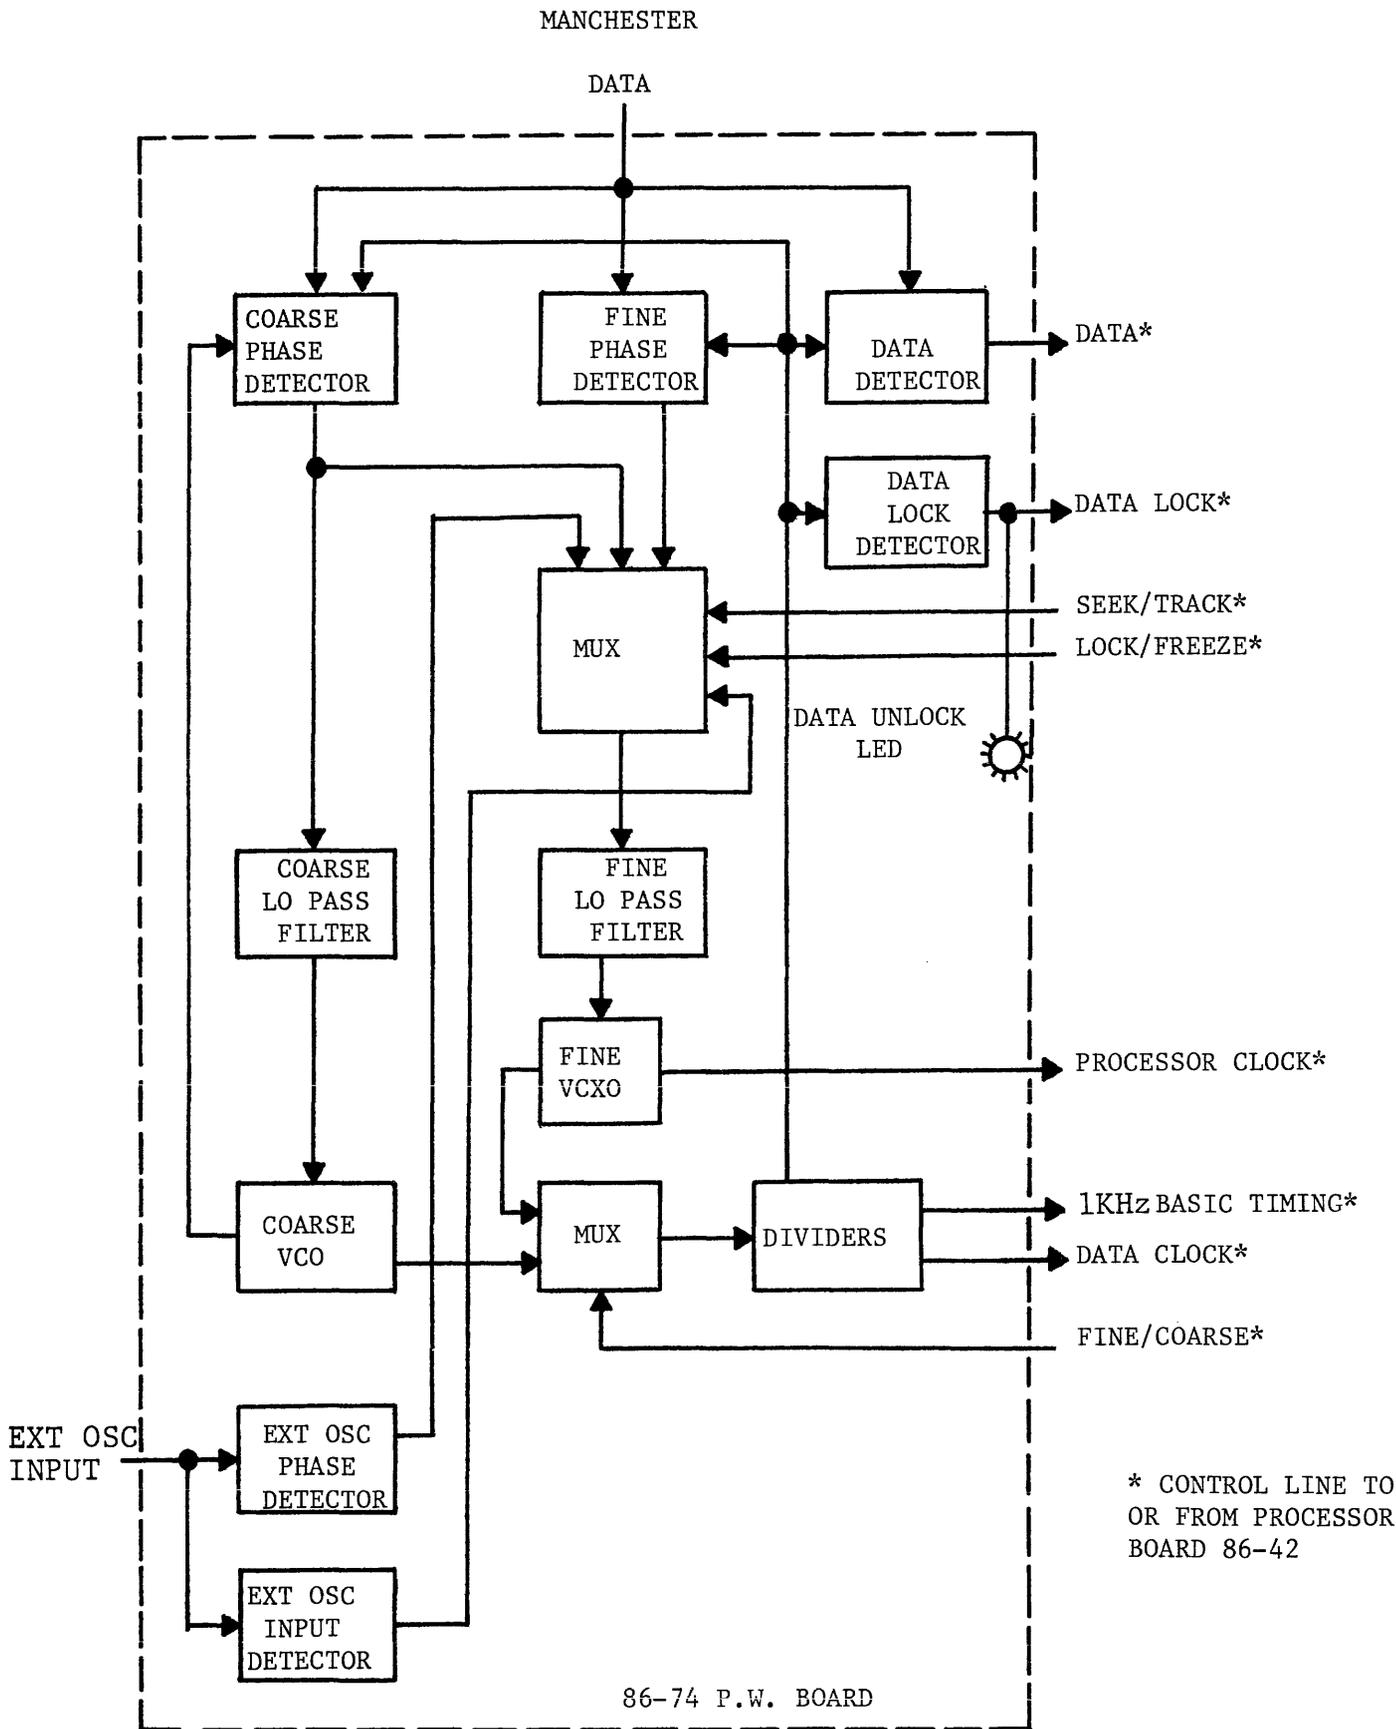
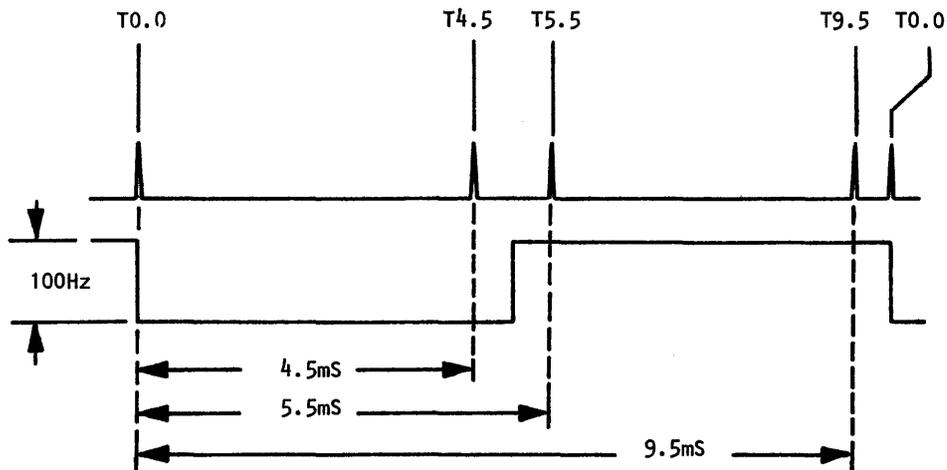

FIGURE 4-5 BASEBAND DATA PHASE LOCK BLOCK DIAGRAM, MODEL 468-DC
FIGURE 4-7 ANALOG BOARD TIMING
3. On re-acquiring satellite signal, the PLL seeks data lock using the coarse data phase detector. See FIGURE 4-5.
4-43 See FIGURE 4-5 (the baseband Data Phase Lock Block Diagram) and SECTION VI for the schematic of Assembly 86-74. Also see FIGURE 4-7 for a timing diagram showing T0.0, T4.5, T5.5, T9.5.